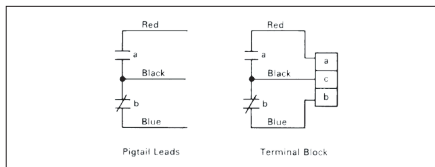

Fig. 2-6. Auxiliary Switch Connection Diagram
- 2-11. Connect auxiliary switch as required (see Fig. 2-6).